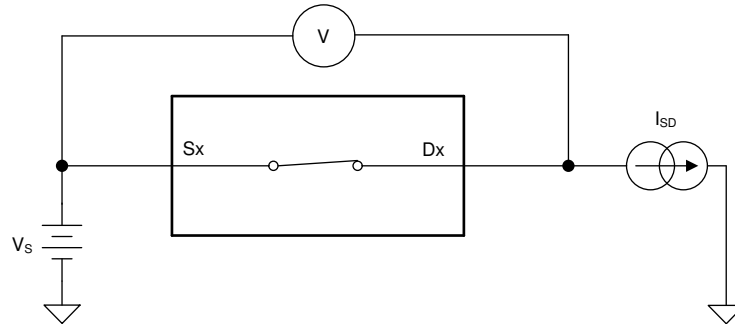

图 7-1. On-Resistance Measurement Setup
The on-resistance of a device is the ohmic resistance between the source (Sx) and drain (Dx) pins of the device. The on-resistance varies with input voltage and supply voltage. The symbol  $R_{ON}$  is used to denote on-resistance. The measurement setup used to measure  $R_{ON}$  is shown in 图 7-1. Voltage (V) and current ( $I_{SD}$ ) are measured using this setup, and  $R_{ON}$  is computed with  $R_{ON} = V / I_{SD}$ :